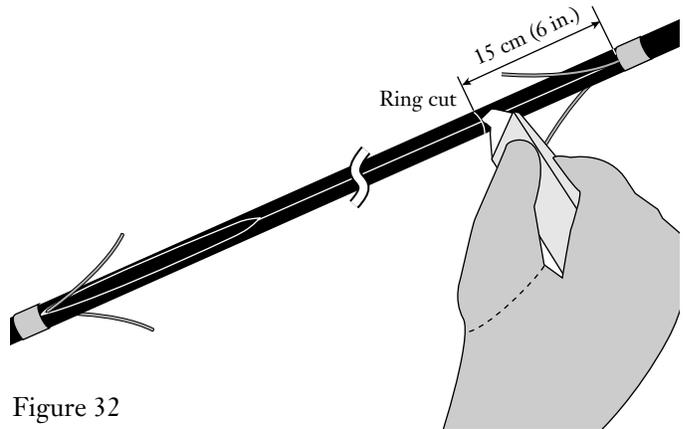

Figure 32
7.13 Use the hook blade knife to make a ring cut through the black outer sheath 15 cm (6 in.) from the other tape mark (Figure 32).